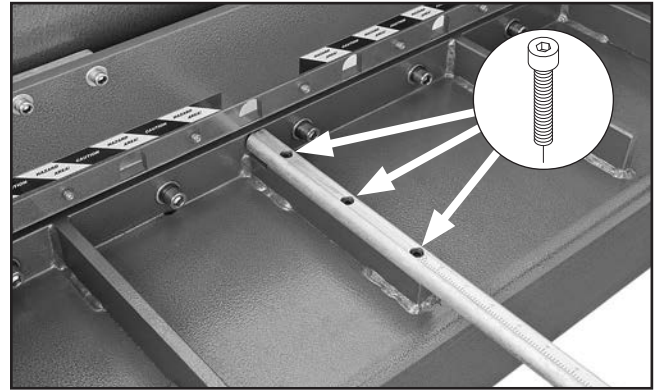

Figure 8. Workpiece support rod attached.
1. Attach the two workpiece support rods with the (6) M6-1 x 25 cap screws (see **Figure 8**).